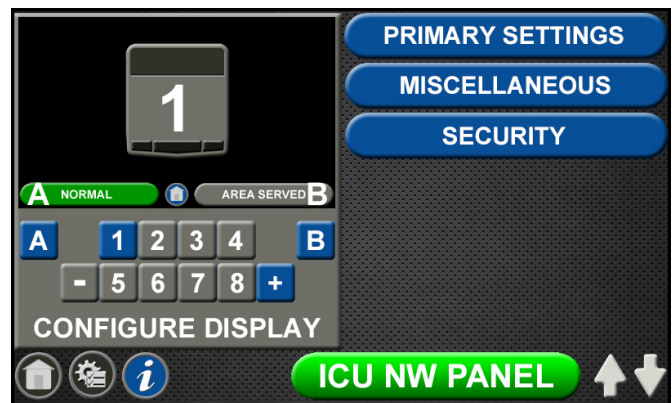

Figure 24: Configuration Screen
2. Touch the Erase button on the keyboard to delete the existing message (Figure 24).